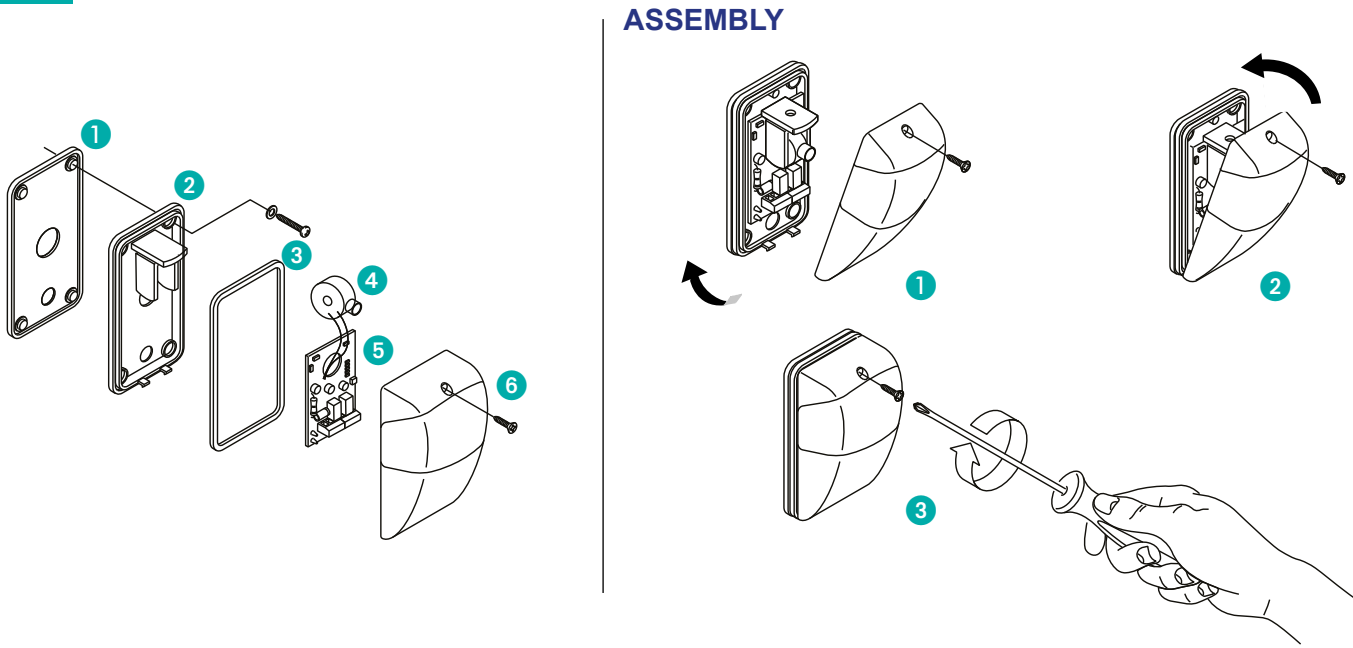

Fig. 1
MOUNTING (FIG. 1)
- 4- Seal the wire holes using the supplied rubber plugs. Install the cover and secure with supplied screws (Fig. 1 a,b,c)